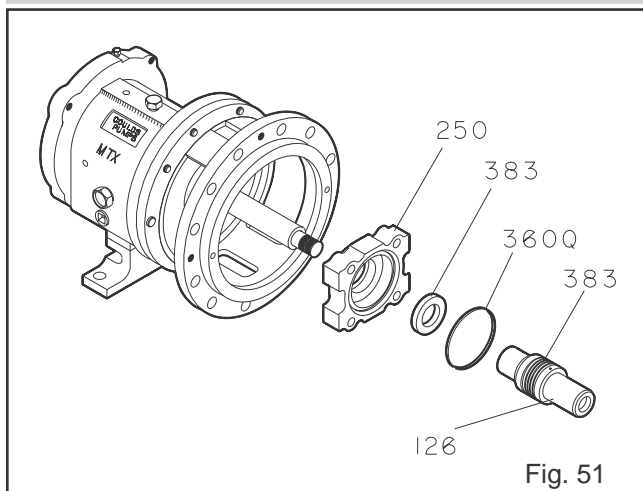

Fig. 51
4. Remove shaft sleeve (126), if used.
**NOTE:** Mechanical seal is attached to sleeve (126). Rotary portion of seal needs to be removed from sleeve by loosening set screws and sliding it off the sleeve. Refer to mechanical seal instructions.
5. Remove gland (250) with stationary seat and O-ring (360Q) (Fig. 51).